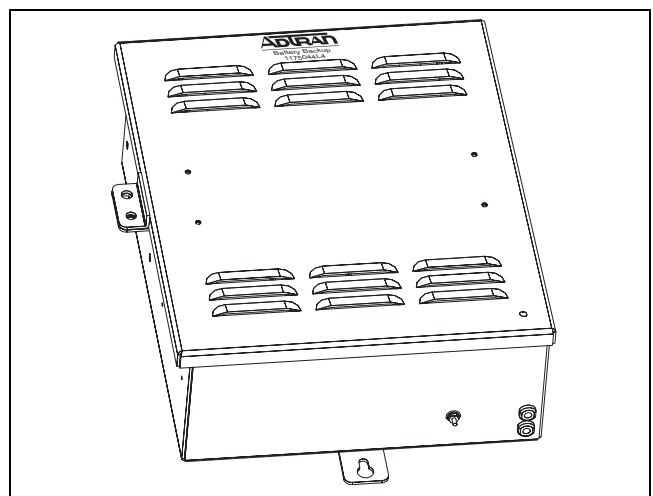
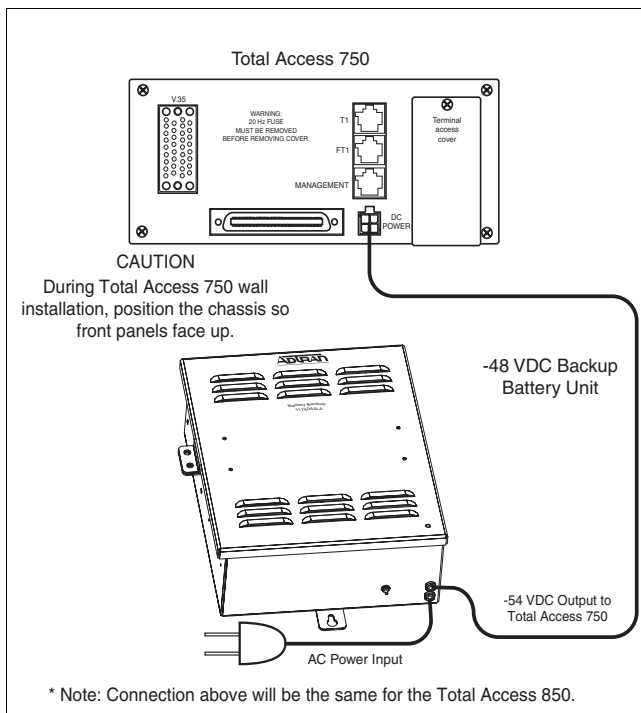

Figure 1. Battery Backup Unit
Figure 2. Battery Backup Unit Connections
This practice provides installation and maintenance procedures for the ADTRAN Total Access BBU with Optional HDSL2 Support (P/N 1175044L4). Figure 1 is an illustration of the Battery Backup Unit. The BBU is designed to be used with the Total Access 750 or Total Access 850. Figure 2 shows the connections between the BBU and Total Access 750. Table 1 shows the pinout for the BBU HDSL connector.
7. Connect the Battery Backup Unit to the Total Access 750 or Total Access 850 as shown in Figure 2 on page 2. Use cable tie-downs as appropriate.